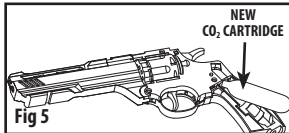

Fig 5
- Insert a new CO2 cartridge into the airgun with the small neck of the cartridge pointing toward the top. (Fig. 5)